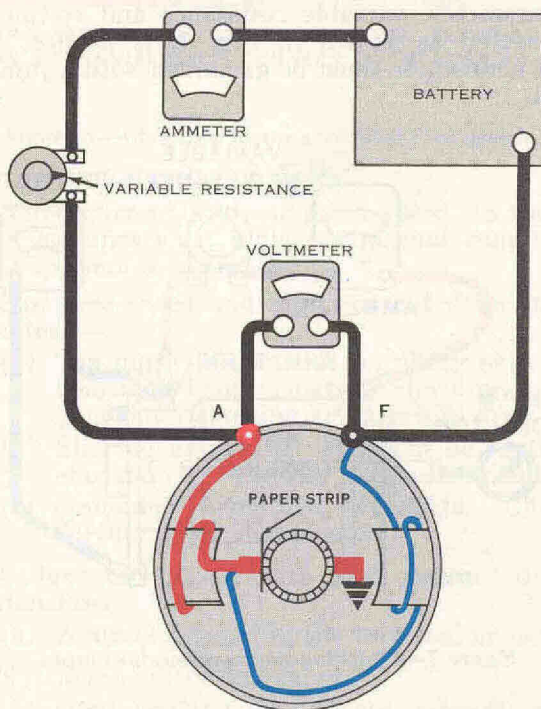

Figure 10—Check for shorted field coils. On three terminal motor-generators, connect from "F" to "M" terminal.
3. If the field is not open, check for a short circuit in the field (Fig. 10) by connecting a battery and an ammeter in series with the field circuit. Proceed with care, since a shorted field may draw excessive current which might damage the ammeter. If the field coil current draw is not within specification for the specified voltage, new field coils will be required.